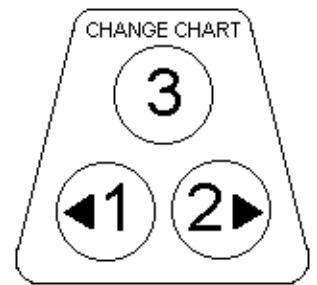

Fig. 1: Change Chart Button
1. Press the “change chart” button #3 (fig. 1).